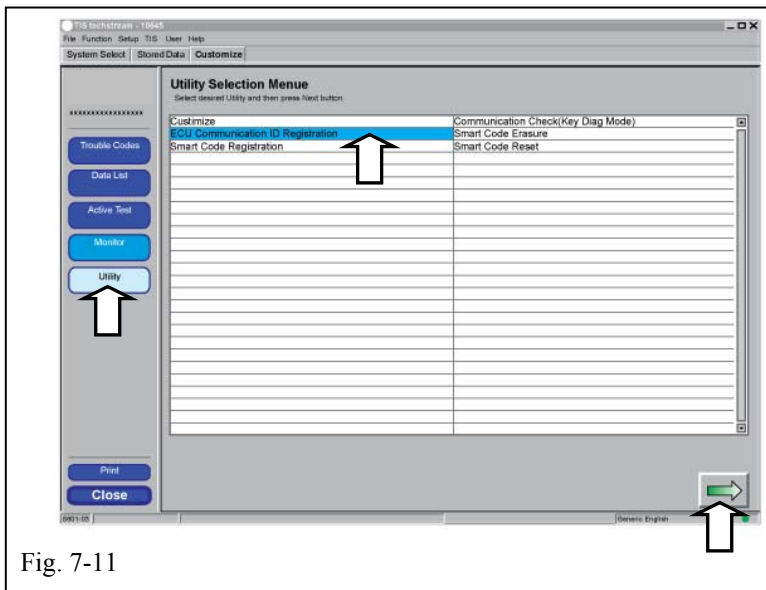

Fig. 7-11
- (u) Click on “Utility.” (Fig. 7-11)
- (v) Select “ECU Communication ID Registration.” (Fig. 7-11)
- (w) Click . (Fig. 7-11)